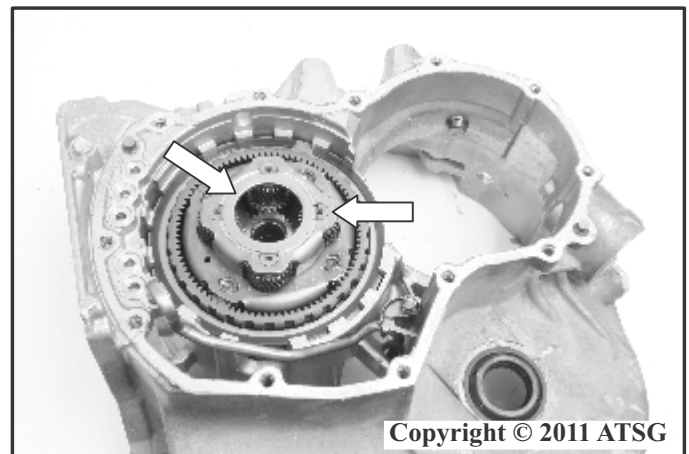

Figure 56
89. Remove the front planet carrier thrust bearing race as shown in Figure 56.
90. Remove the front planet carrier and sun gear assembly as shown in Figure 56.